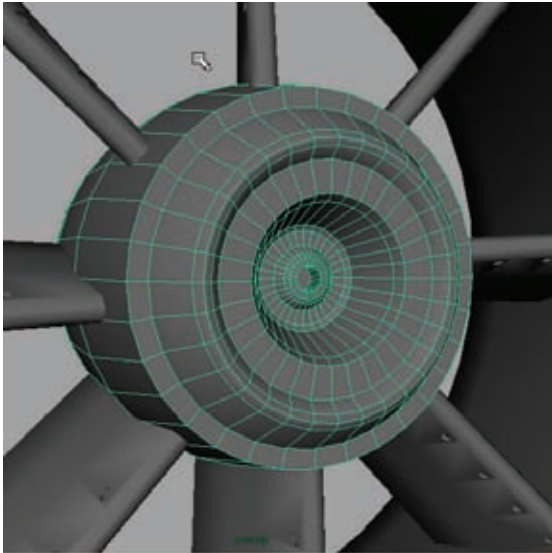

Figure 7.7
13. Just as you did with the axis detail in the front of the motor, you can create an exhaust port in the back of the motor. For this detail, I went with a more “make it look cool” attitude instead of strict accuracy. It's more fun that way! By just using a series of simple Extrudes and Bevels, I came up with Figure 7.7. You are free to do whatever detail looks good to you.